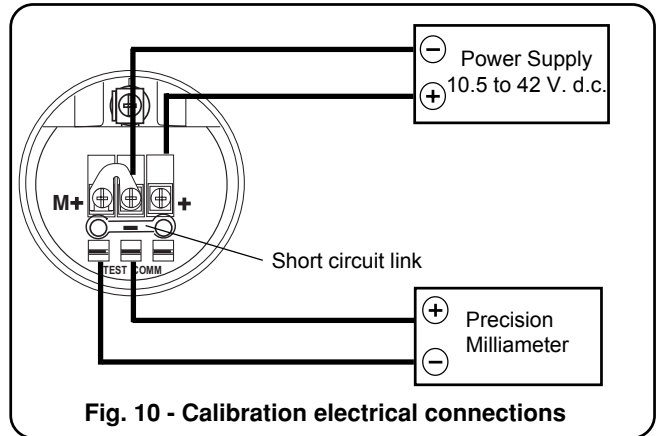

Fig. 10 - Calibration electrical connections
- v) make the electrical connections, as indicated in Fig. 10. Connect a precision milliammeter as shown and **remove the short circuit link.**